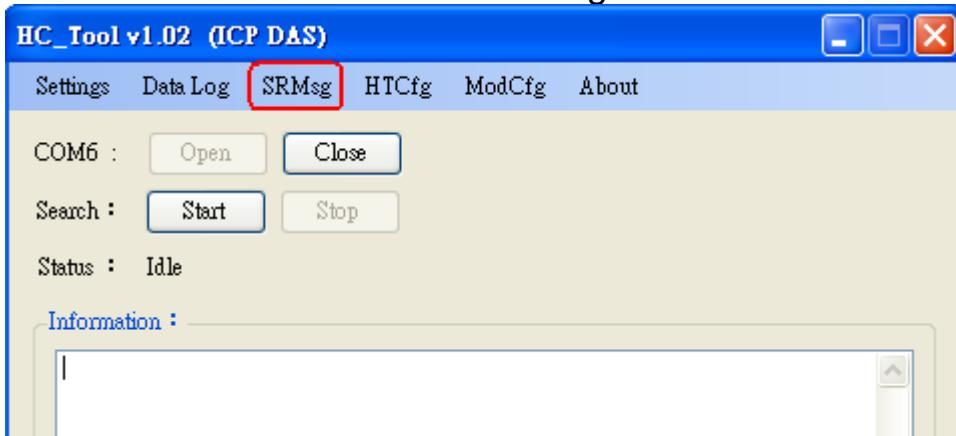

Figure 4-10: SRMsg Function
- (1) Click “SRMsg” item and it will open the HART command function window for HART communication like Figure 4-10.